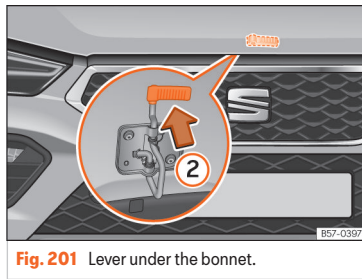

Fig. 201 Lever under the bonnet.
- To lift the bonnet, press the release catch under the bonnet upwards »»» Fig. 201 ②. The arrester hook under the bonnet is released.